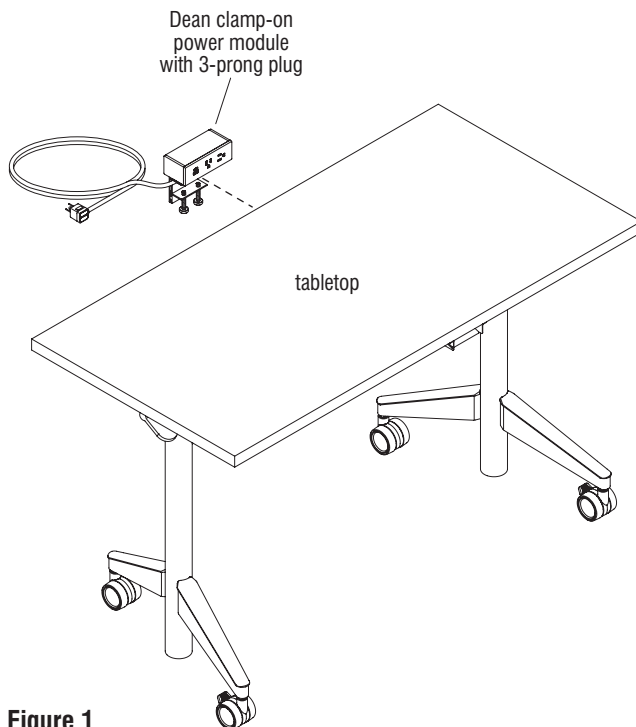

Figure 1
1. With the assembled table in the upright position, place the Dean clamp-on power module onto the back edge of the tabletop at the desired location. Assume that the power cord can be routed easily to a power source (Figure 1 & Detail A).